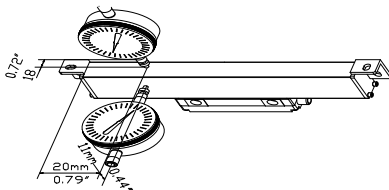
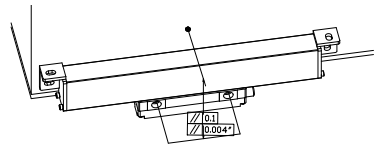

Figure 4.5
Figure 4.6
3. When you calibrate the parallelity of the body of the linear scale with level meter or other similar devices, the angle of the measuring head must be confined within $\pm 30^\circ$ (based on the measuring head of the level meter being parallel with the level meter itself). As for the angle, the smaller, the better. If you use the decimal meter (Figure 4.5, 4.6, 4.8, 4.9), you must make the bar of the measuring head perpendicular with the surface to be measured, only in this case can ensure the actual measuring precision.
9. Based on the center of the linear scale, you must take the point of symmetry of the two sides as the criteria point when adjusting the height and level of the linear scale. As to any linear scale, whenever you perform the horizontal adjustment or vertical adjustment, for the body of the linear scale itself, the range of the adjustment can't individually exceed 20mm from the end of the meter to the body of the scale (Figure 4.5). As for the Read Head, perform the adjustment within the two square standard sides (Figure 4.6)
- ◆ The parallelity of the read-head referring to the worktable is less than 0.10mm, and the maximum parallelity can't exceed 0.15mm (Figure 4.6).